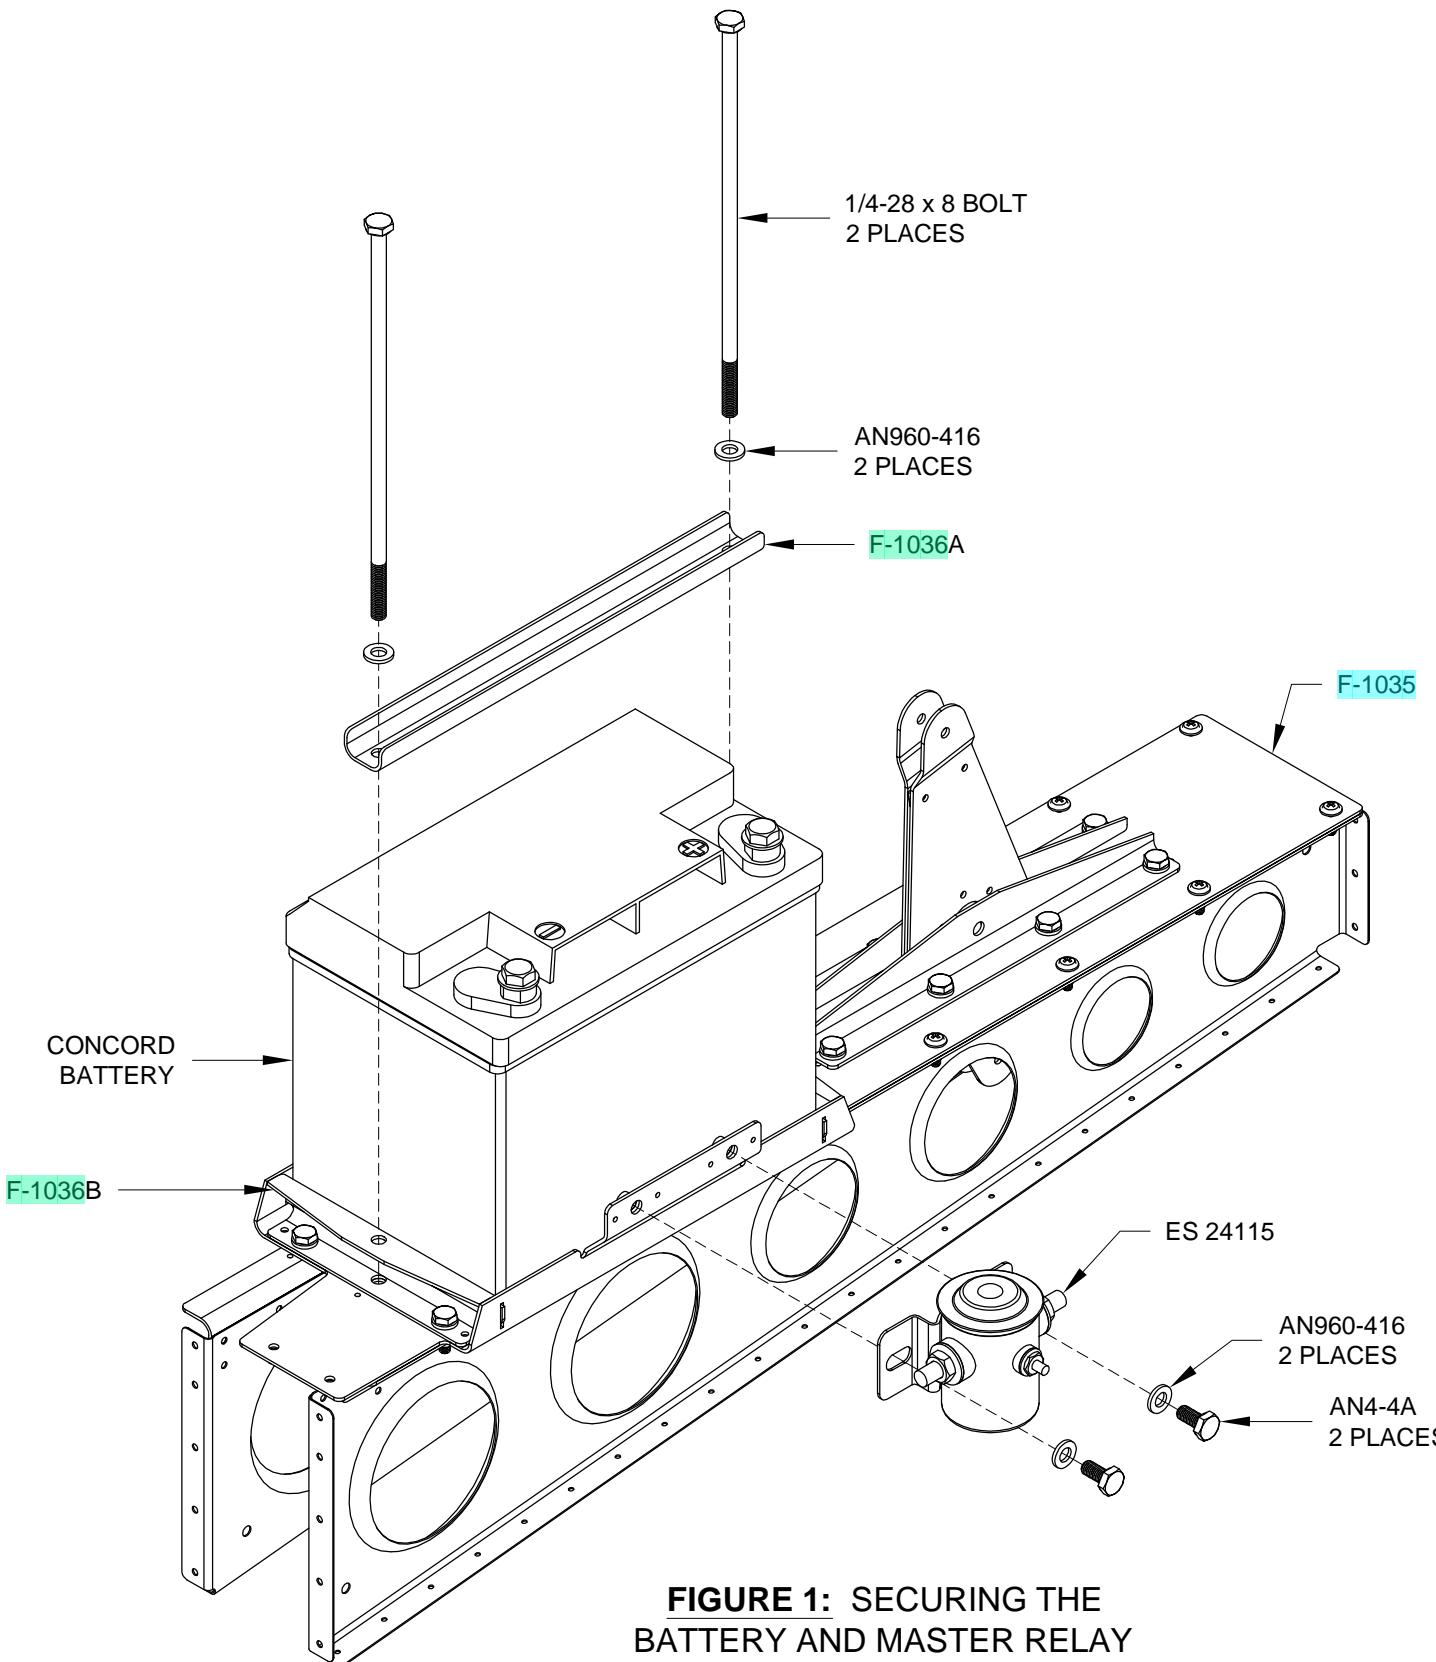

FIGURE 1: SECURING THE BATTERY AND MASTER RELAY
Step 2: Secure the ES 24115 Master Relay to the F-1035 Battery /Bellcrank Mount using the hardware shown in Figure 1.